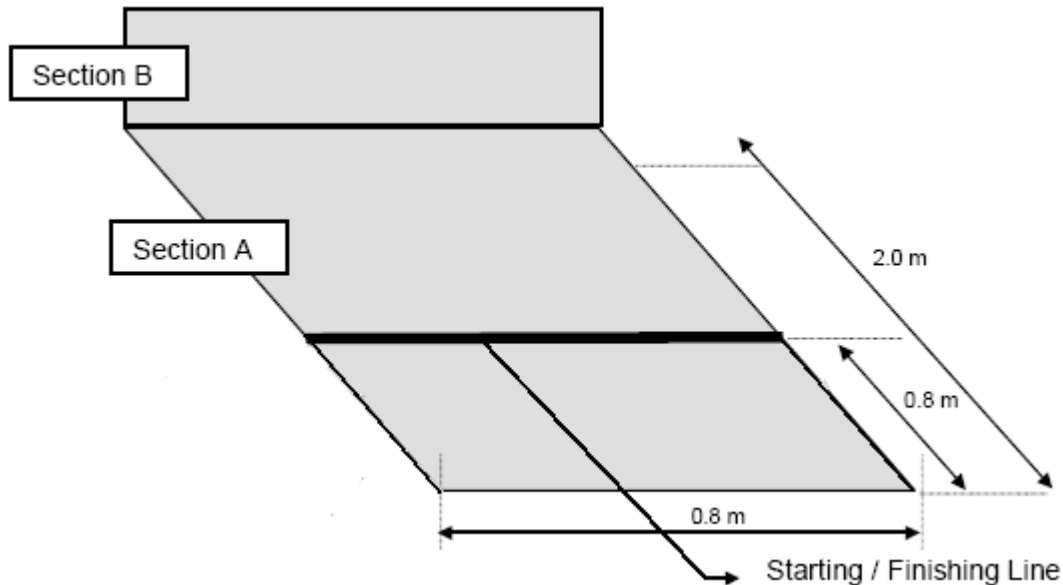

Figure 2: The starting line for the wall-climbing robot race viewed from above wall-section A
3.1 Robots will start from a stationary position with the front-most part of the robot lying behind the starting line in section A as view vertically from above. (see Figure 2.)